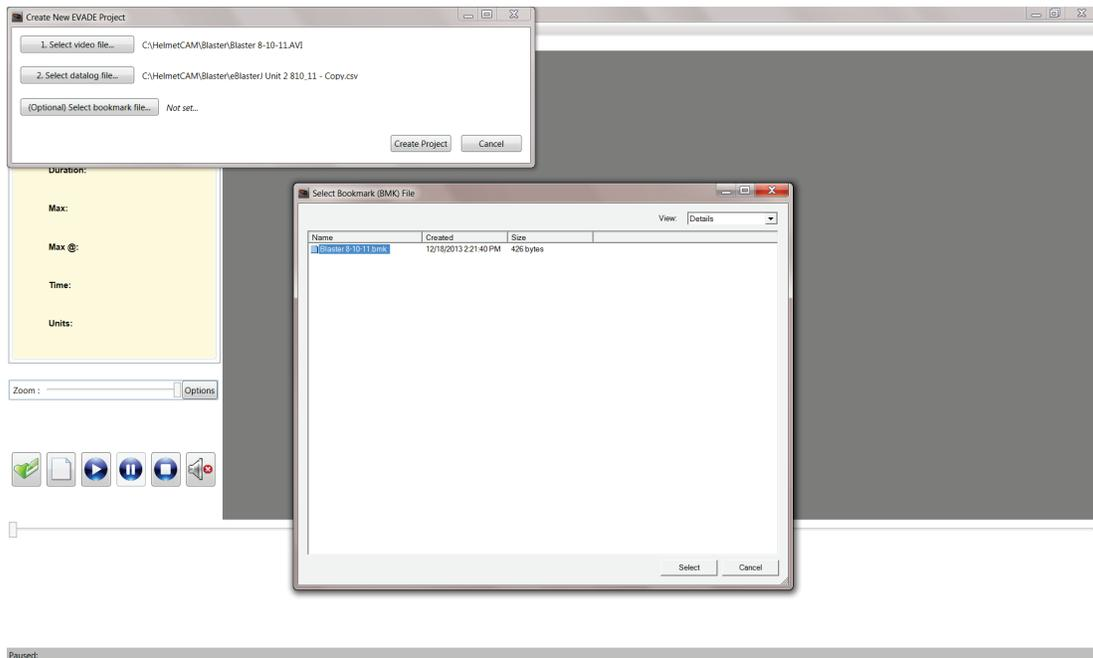

Figure 27. The (Optional) Select Bookmark (BMK) File dialog box allowing selection of a bookmark file.
4. Click the **(Optional) Select bookmark file...** button to open the Select Bookmark (BMK) File dialog box (Figure 27). This dialog box allows selection of the bookmark file. A bookmark file, a filename with a *bmk* extension, is a file that contains bookmarks from a previously conducted dust exposure analysis. The initial project setup may not have an available bookmark file. Therefore, this is an optional command and selecting this command may not be required if there is no bookmark file or if the user decides not to use any existing bookmark files. As with the **Select Datalog file** step, this dialog box does not allow for switching directories. It uses the directory chosen during the video selection process. Click **Select** to proceed. Selecting **Cancel** terminates the **Select bookmark file** procedure.